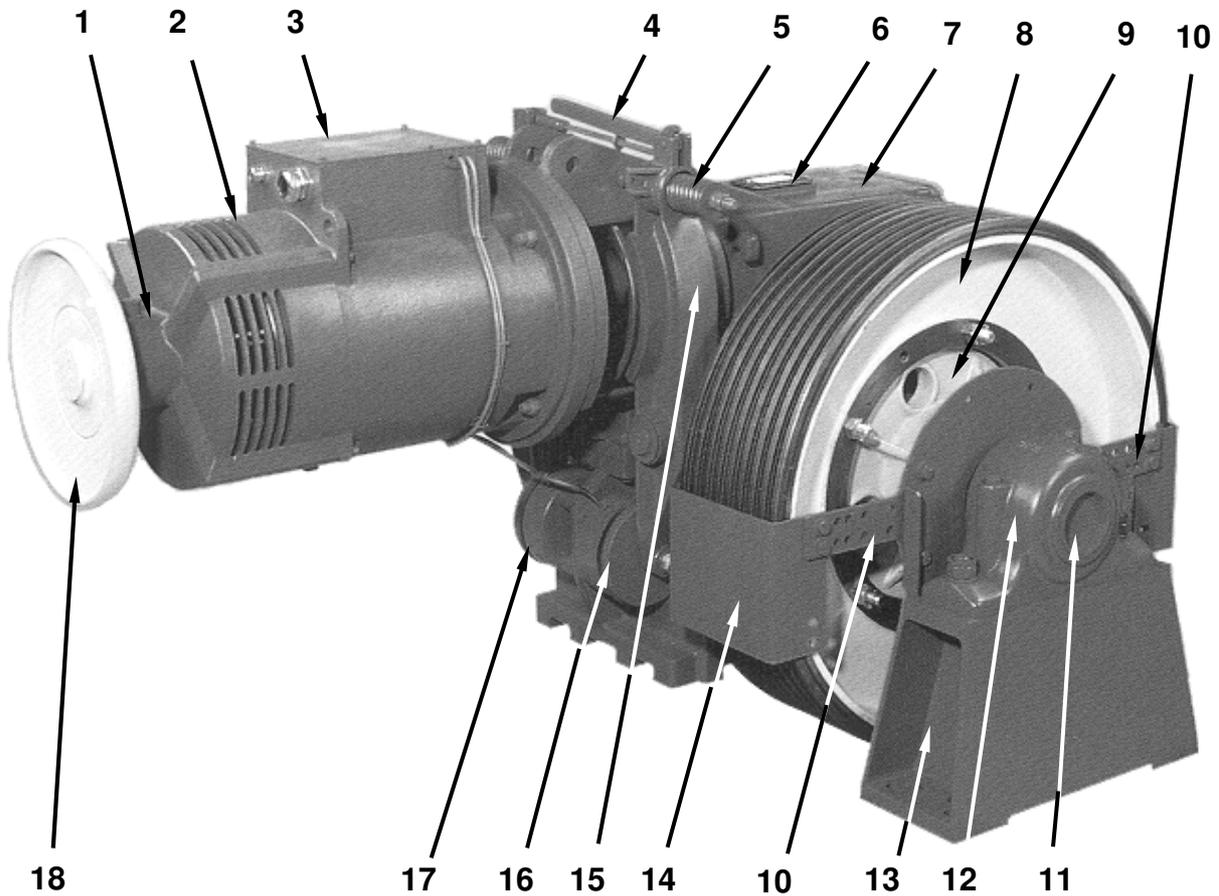

Fig. 2.1
(illustration Fig. 2.1 in right-hand design)
The forces on the installation surface are transferred on the traction sheave side via an outside bearing (self-aligning bearing), on the machine side via two compensating supports fitted at the plant under the gear box casing (Fig. 2.1. item 16).
As standard, a pulse generator is fitted on the shaft end of the motor (before the handwinding wheel), see Fig. 2.1.